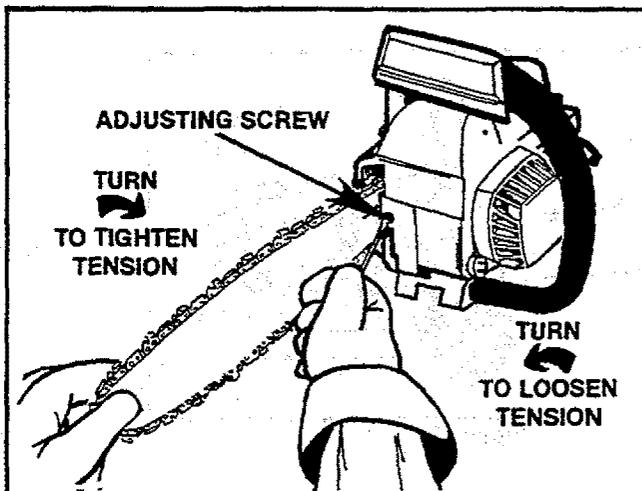

Figure 6
- Hold the tip of the Guide Bar up and turn the Adjusting Screw clockwise just until the chain does not sag beneath the Guide Bar. Figure 6.